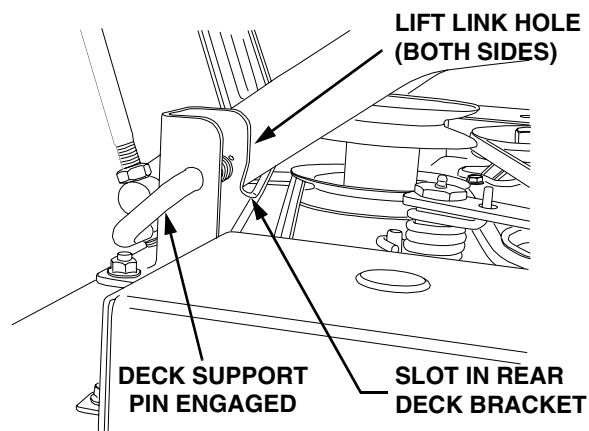

Figure 47
- Carefully guide the tractor implement lift links (left and right) into the rear deck bracket slots (left and right) as the tractor implement lift handle is lowered to its lowest setting (Refer to Figure 47).
- Pull both deck support pins outward and rotate rearward to disengage the outer surface to the rear deck brackets. Release the pins, making certain each deck support pin passes through the inner hole of the rear deck bracket. The spring tension will push the pins inward and, if aligned, through the hole in each implement lift link (See Figure 47).